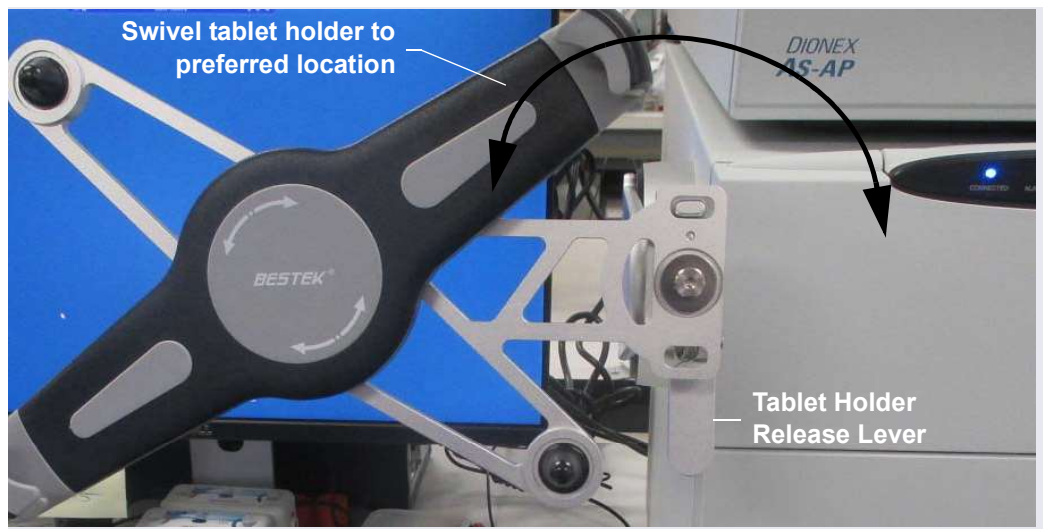

Figure 3-36. Tablet Connection and Viewing Adjustment
2. Pull the tablet holder release lever (see Figure 3-36) toward yourself and swivel the holder to move the tablet to the preferred location.